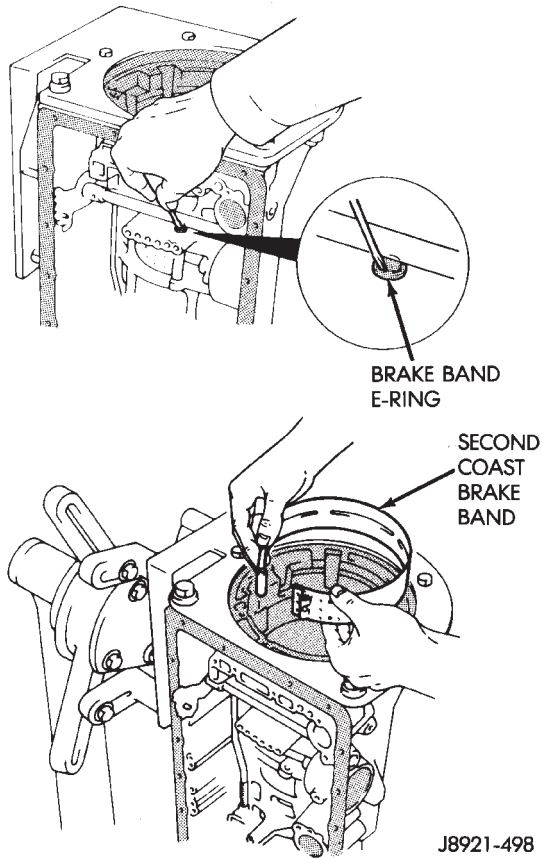

Fig. 32 Second Coast Brake Band Removal
(40) Remove second coast brake band E-ring from band pin and remove brake band (Fig. 32).